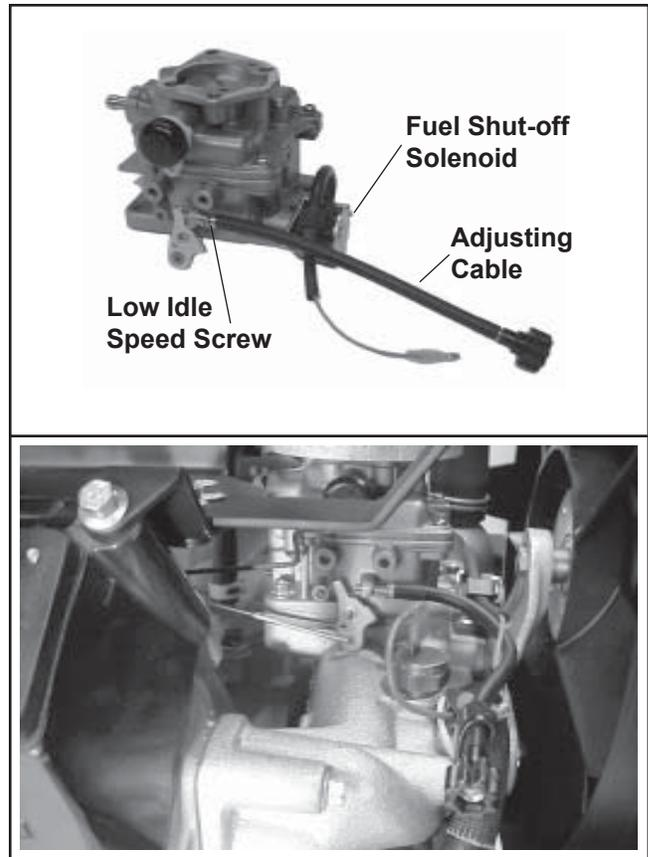

Figure 5-3. Carburetor with Adjusting Cable on the Low Idle Speed Adjustment Screw (Early Models).
** Some early models contained an adjusting cable and knob attached to the adjusting screw. See Figure 5-3.